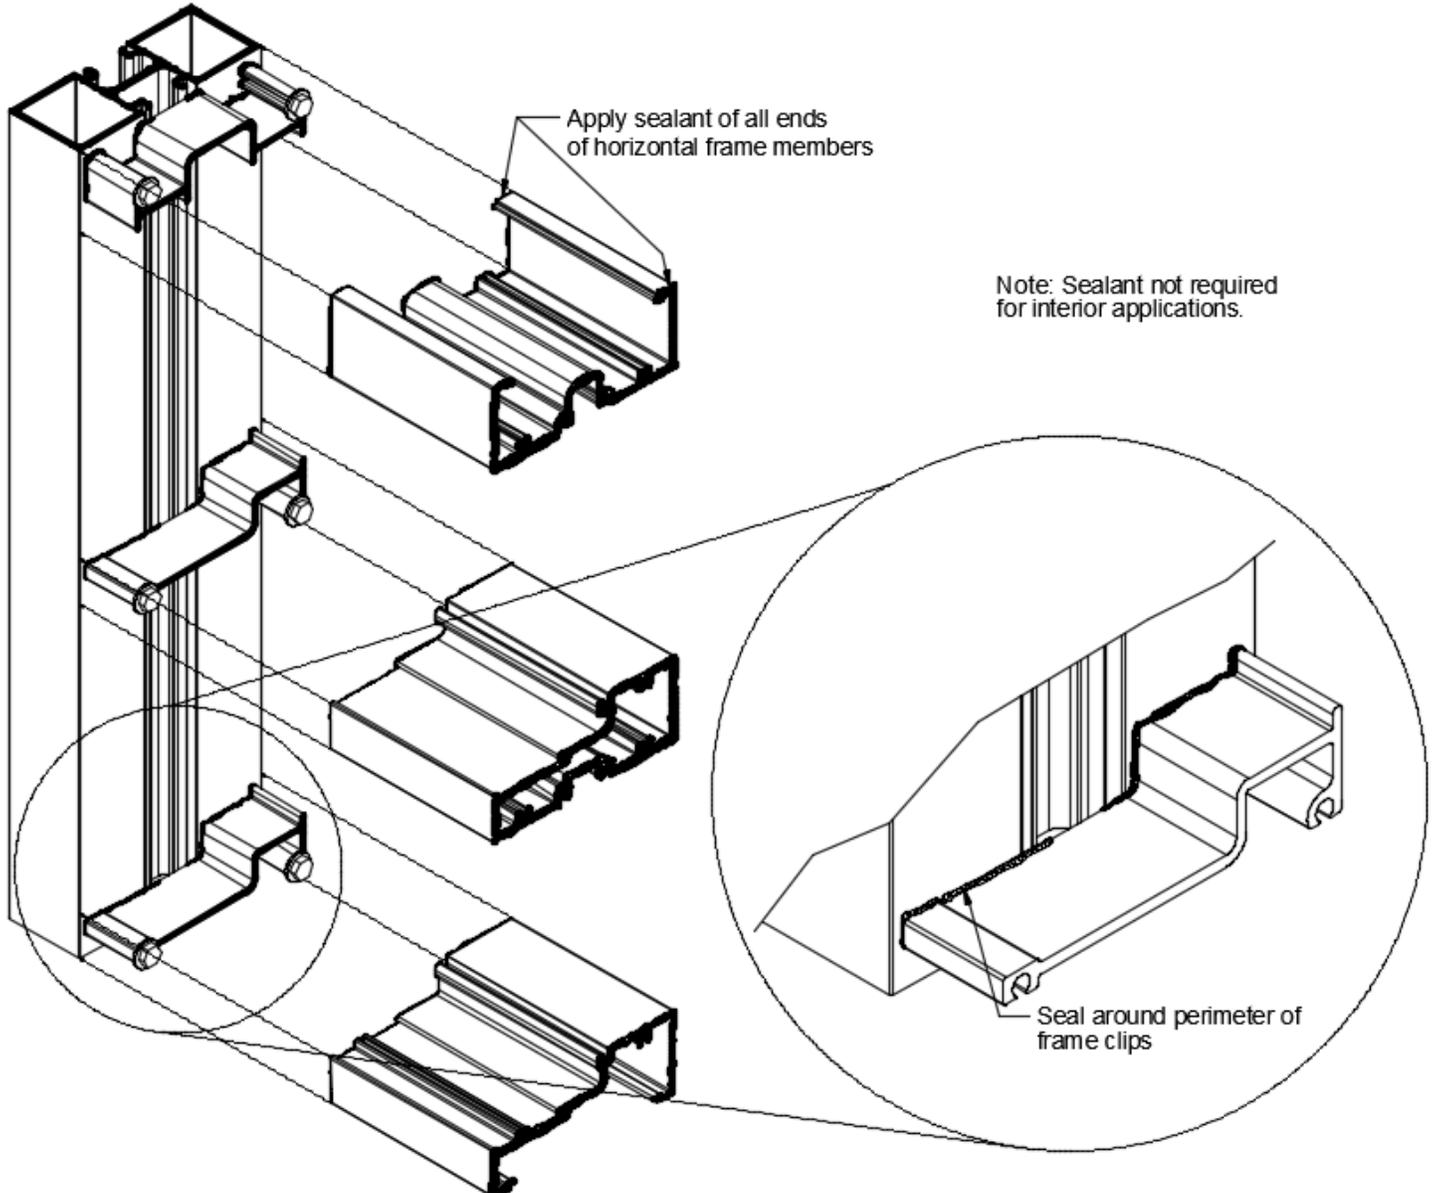

Fig. 29.1
- C. Slide horizontals onto frame clips as show in **Fig. 29.1**.